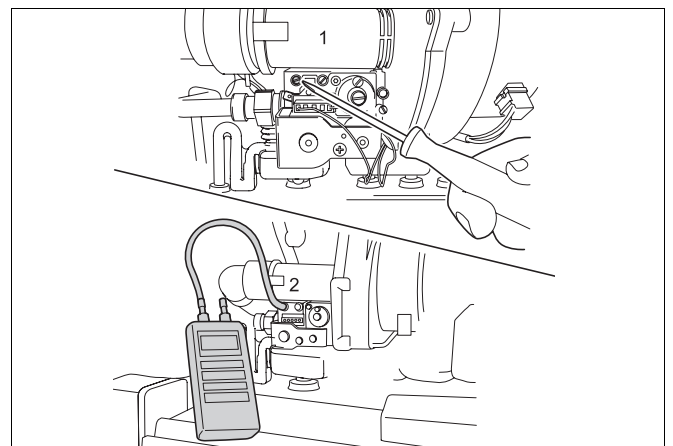

Fig. 34 Measuring the inlet gas pressure
- Close the gas shut-off valve. Loosen the screw plug on the inlet gas pressure testing nipple by two turns (fig. 34, pos. 1).
- Connect the pressure gauge connection hose to the testing nipple (fig. 34, pos. 2).